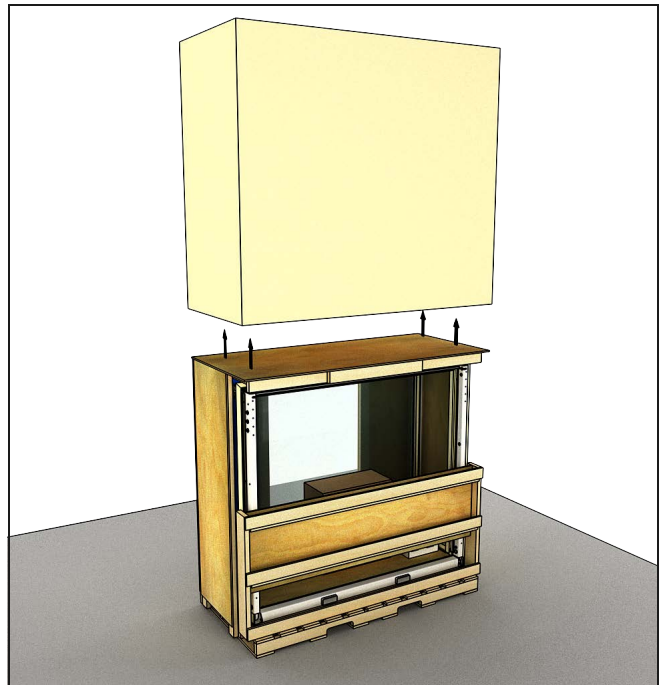

Figure 12
2. Cut and remove the protective packaging from the unit and dispose/recycle properly. See Figure 12. Inspect unit for any hidden damage and report immediately to your Marvin representative. Carefully set aside finished parts, job box, and foam box located within the crating system. Remove crating.